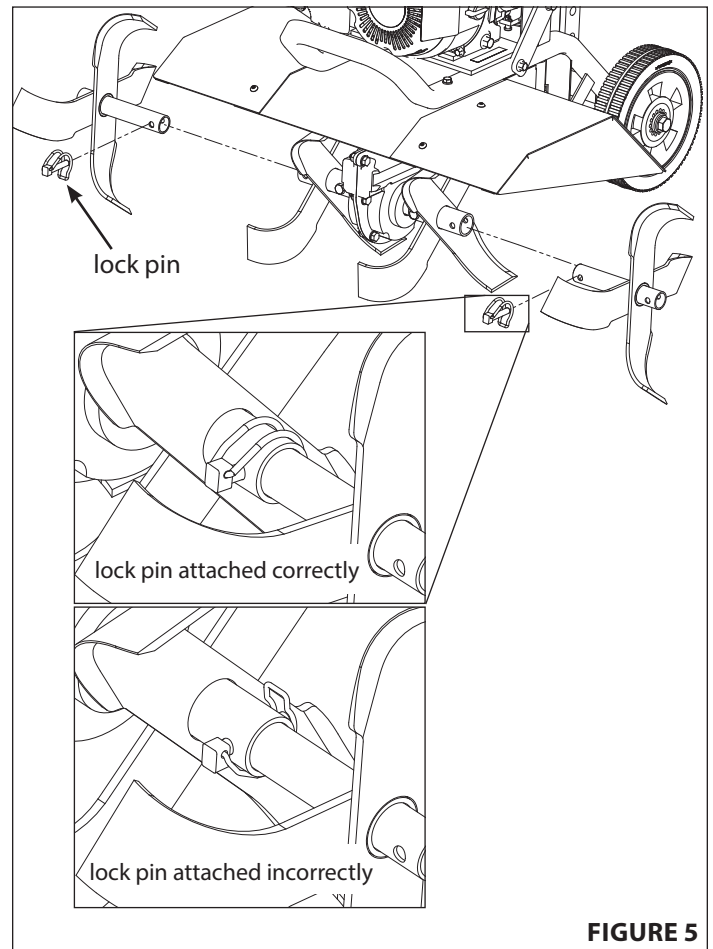

FIGURE 5
6. Assemble tines to unit. Sharp edges of tines will be away from the operator at the top or facedown at front of machine. Fasten outer tines to the inner tines using the 8mm x 40mm lock pins already affixed to the inner tines. Lock pins must be installed so that the pin enters the hole in the tine from the front of the tiller, and so the wire bale hinges over the top of the tine pipe and latches to the protruding pin on the back side of the tine. **SEE FIGURE 5**